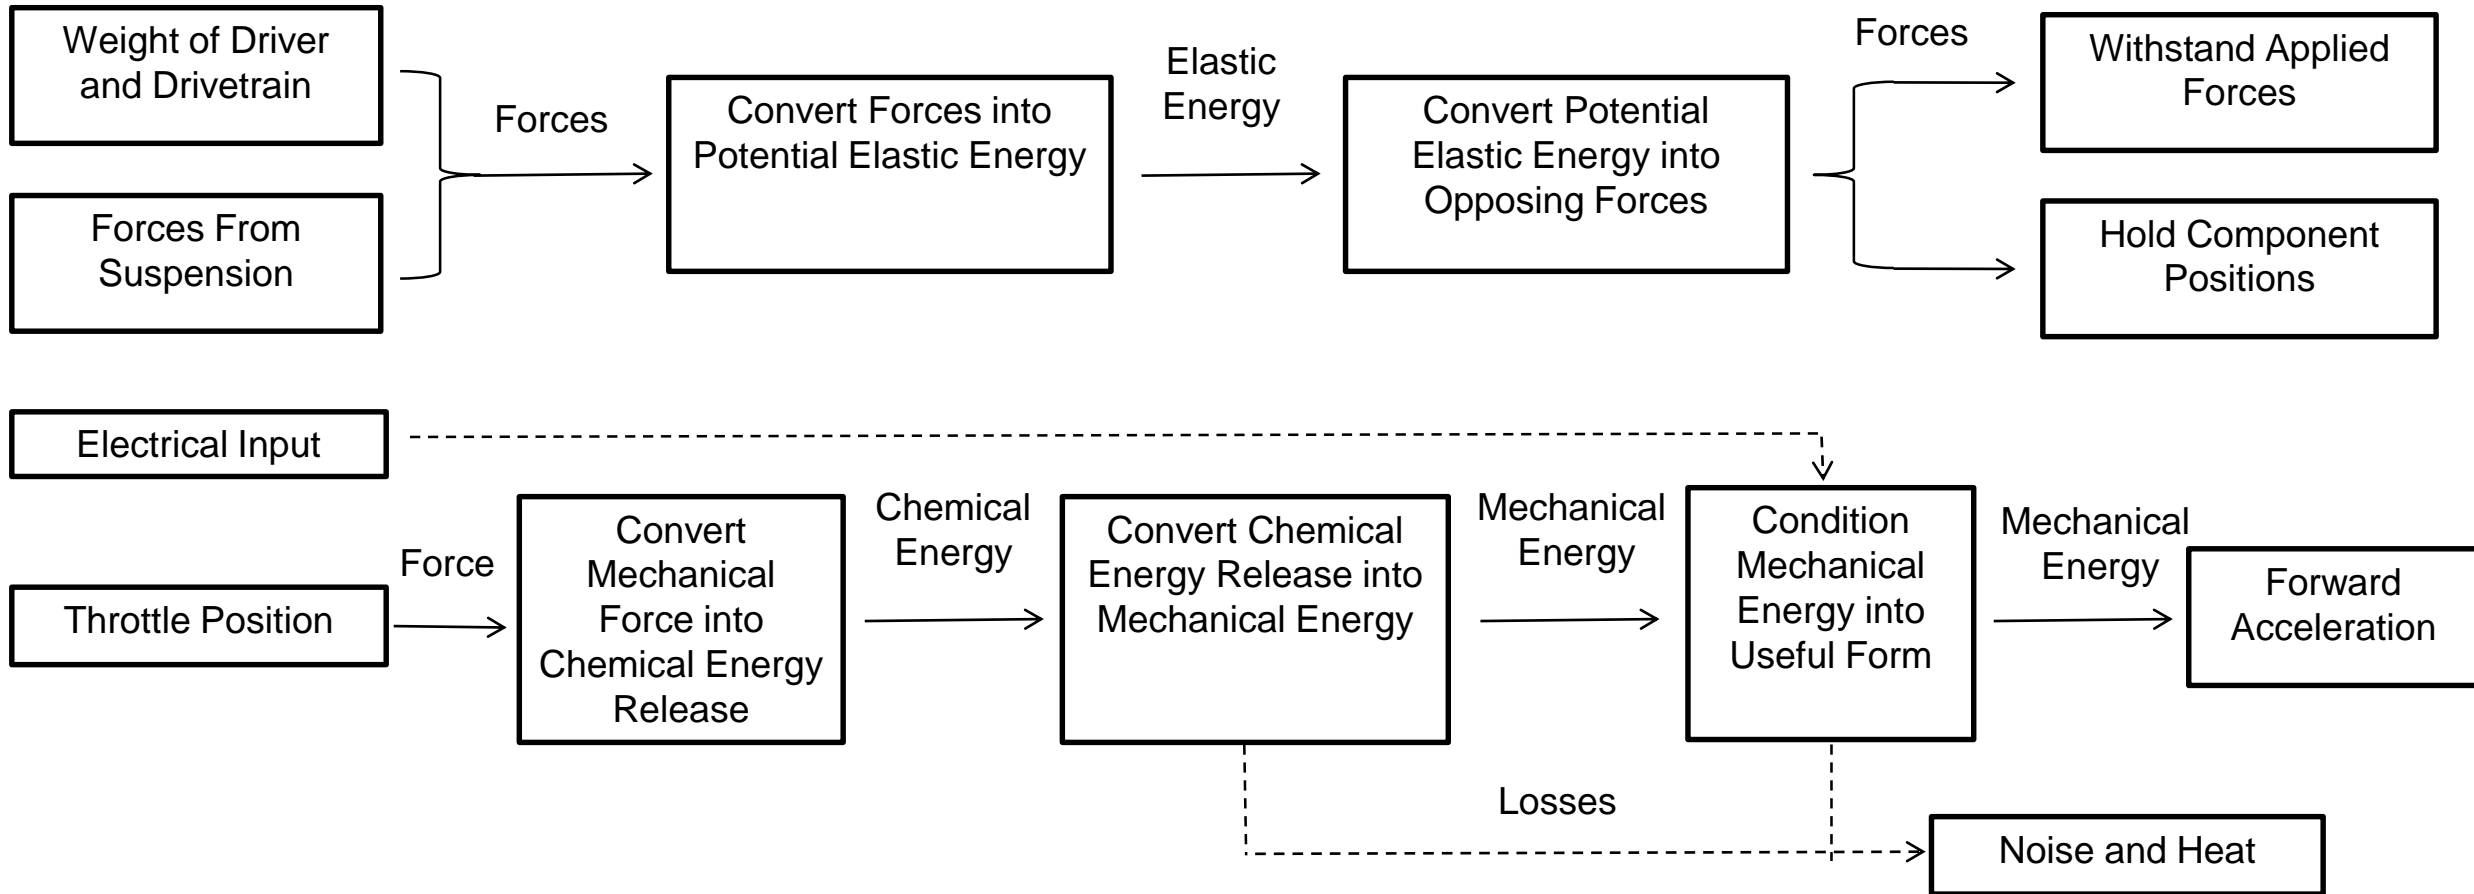

Figure 1: 2018-19 NAU Baja [1]
- [1]P. Czop, "Application of an Inverse Data-Driven Model for Reconstructing Wheel Movement Signals", *Research Gate*, 2019. [Online]. Available: https://www.researchgate.net/figure/A-schematic-view-of-a-McPherson-front-strut-suspension-system_fig1_273249518. [Accessed: 07- Oct- 2019].